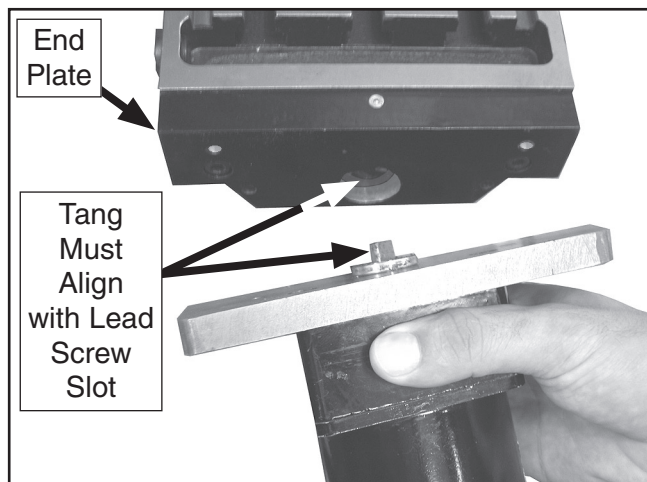

Figure 13. Motor installation.
19. Rotate the power feed drive tang so it aligns with the lead screw slot (**Figure 13**).